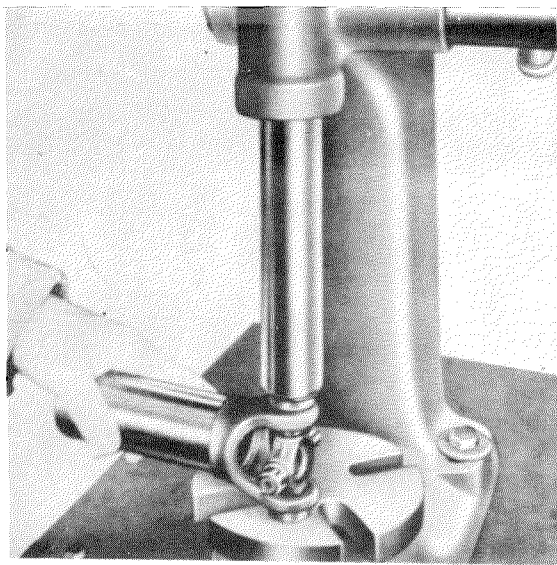

Fig. 35 — 4/61
146. Insert the snap rings (5) (Fig. 35 — 4/62). The snap rings (5) must be so selected that there is no end play.